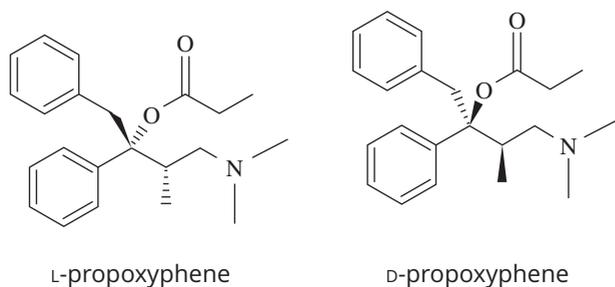

FIGURE 15.4.9 The enantiomers of propoxyphene
- **Propoxyphene:** In the case of propoxyphene, both enantiomers are effective in the human body, but for different purposes. *D*-propoxyphene relieves pain while *L*-propoxyphene helps relieve coughs. The structures of propoxyphene are shown in Figure 15.4.9.